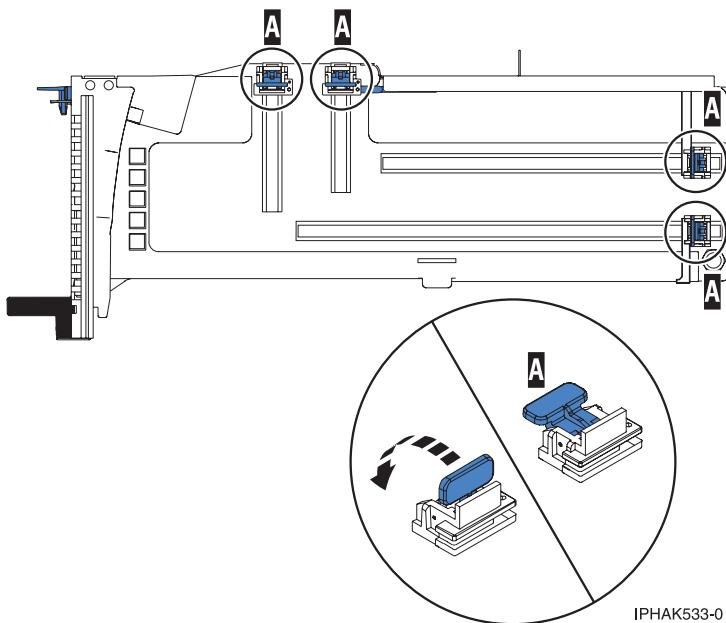

Figure 26. Adapter retainers
- b. Ensure that all of the adapter retainers (A) have been pushed out to the edges of the cassette to allow the placement of the adapter. See Figure 26 on page 33.